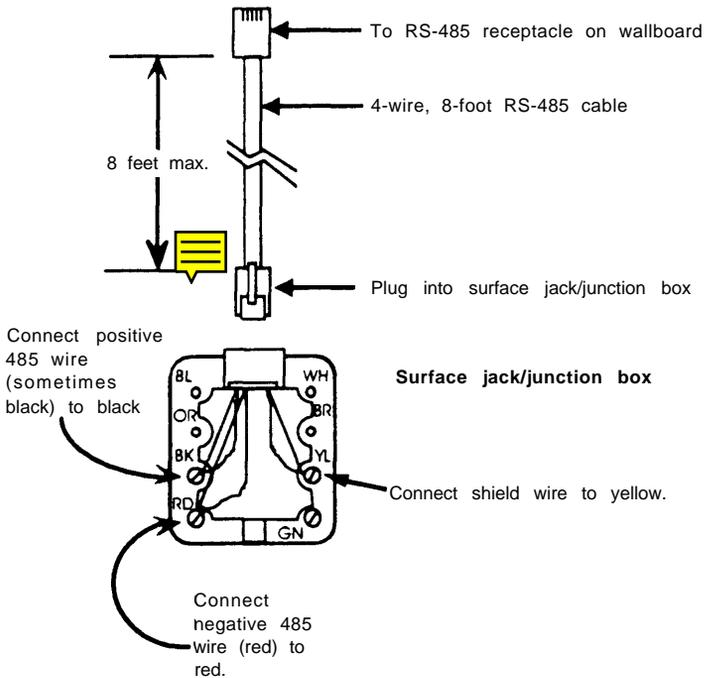

Figure 8. RS-485 Network Connection Using Modular Jacks
2. Connect one end of the RS-485 cable to the RJ11 jack (the RS-485 port on the back of the converter box). Connect the other end of the RS-485 cable to a modular junction box supplied with the wallboard in the following manner (see Figure 8):